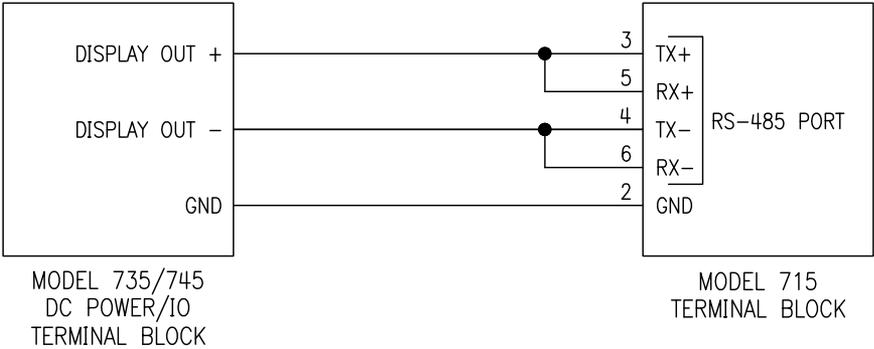

**Figure 7. Serial loop network wiring diagram.**
The diagram in Figure 7 illustrates the wiring for a serial loop network of up to 98 Digiquartz® Intelligent Instruments and/or Transmitters. Refer to paragraph 5.9 for more information about serial loop networking.
**Note:** Figure 7 is a generic diagram that is meant to illustrate the concept for all Digiquartz® Intelligent Instruments. Please note that the power connections on a Model 735/745 are located on a separate terminal block adjacent to the RS-232 connector.